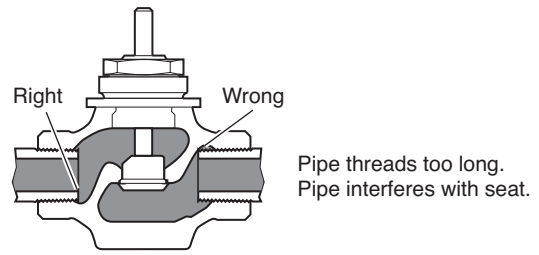
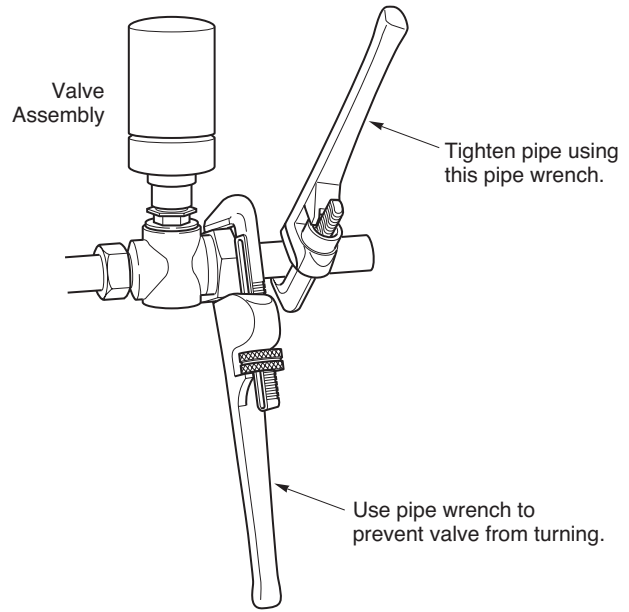

Figure-3 Normal Thread Engagement.
Figure-4 Installation of Screwed End Valves.
7. Use a pipe wrench to fully tighten the valve to the pipe. Do not over tighten or strip threads. See Table-8 and Figure-3 for the normal engagement length of the threads. Figure-4 shows a means of tightening the pipe so that the valve is not twisted or crushed.